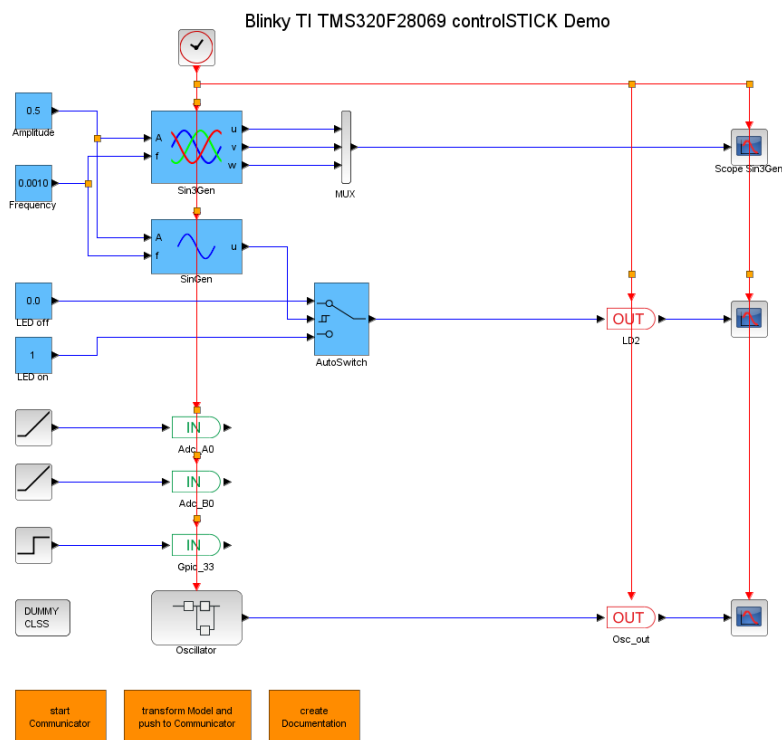

Figure 1: *Blinky* demo application in *Scilab*
2. Double click on **DemoApplication.zcos**. The example project contains a few blocks used to demonstrate the basic function of X2C (see Figure 1). The *Inport* and *Outport* blocks define the interface between the generated X2C code and the peripheral functions (e.g. ADC or GPIO Pins) on the target. For details about each block function read *X2Copen.Doc.pdf* in the documentation folder of the X2C directory.